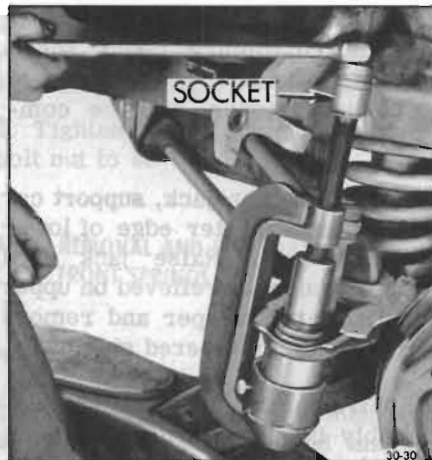

Figure 30-33—Removing Lower Ball Joint
7. Tighten Detail J-9519-8 with a socket and handle as shown in Figure 30-33 until ball joint is forced out of the lower control arm.